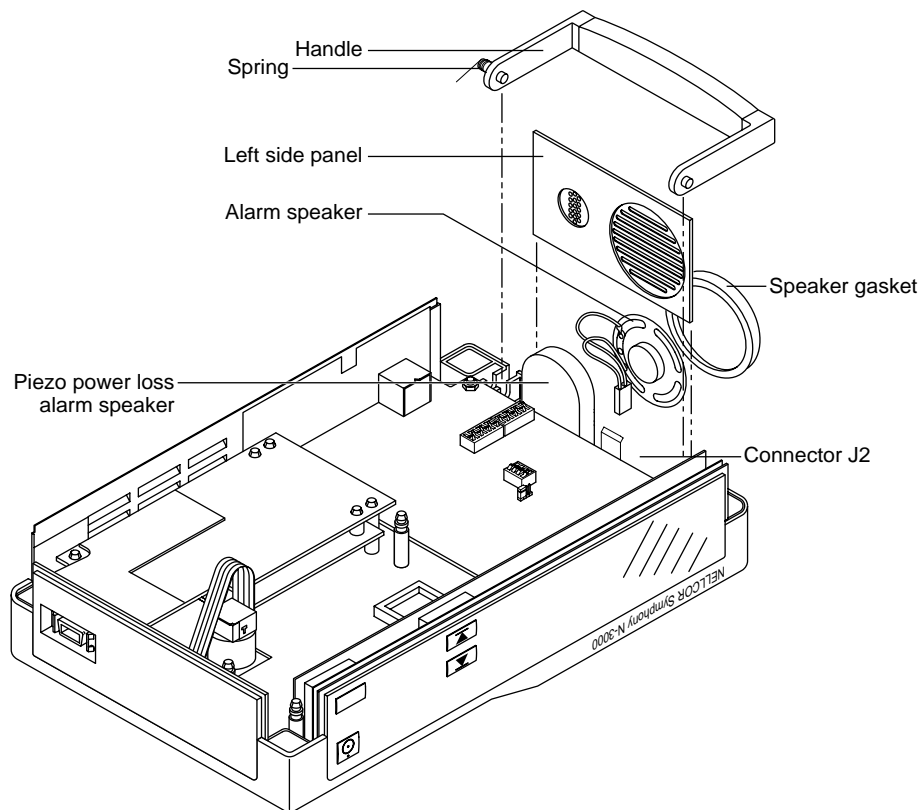

Figure 6-6: Handle, Left Side Panel, and Speaker Disassembly
2. Remove the handle and spring assembly on the right side of the unit, as illustrated in Figure 6-6, lifting it up out of the molded chassis cradle.